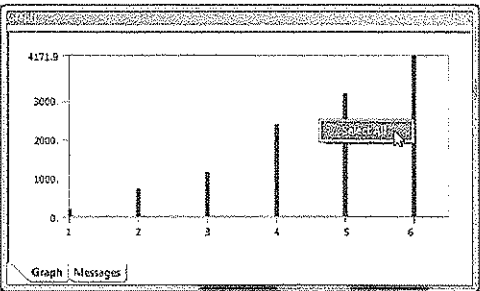

Figure 10-19 The Graph window
1. If the **Graph** and **Tabular Data** windows are not displayed automatically, choose the **Graph** tab from the lower left corner of the Graphics screen, refer to Figure 10-19; the **Graph** and **Tabular Data** windows will be displayed.
2. Choose **Select All** from this shortcut menu to select all the data available in the **Graph** window, as shown in Figure 10-19.